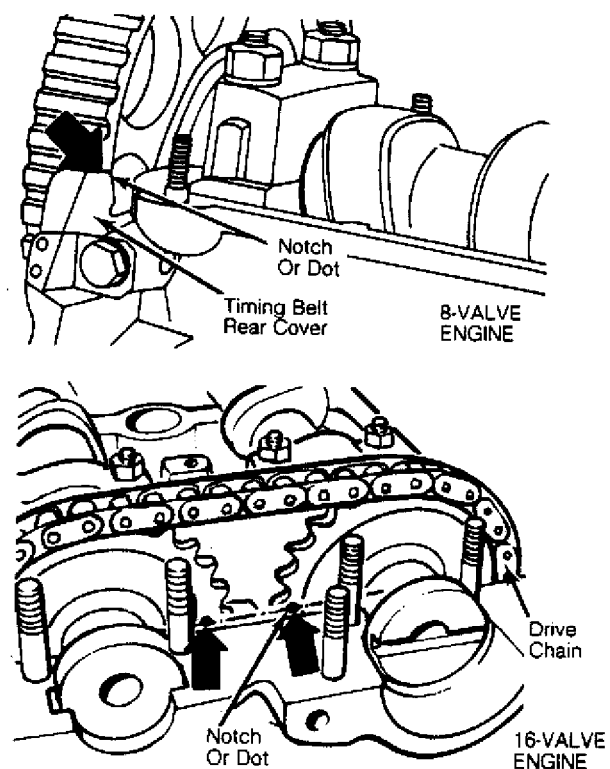

Fig. 4: Setting Camshaft Timing Marks
2) Position camshaft so mark on back of sprocket is in line with upper edge of timing belt rear cover. See Fig. 4. Both lobes for No. 1 cylinder should point upward at 45 degrees from camshaft follower so both valves are closed. Install timing belt on camshaft sprocket.
3) On Scirocco 16-valve engine, install camshafts and drive chain as an assembly. Ensure timing marks on camshaft are aligned. See Fig. 4. Tighten intake camshaft bearing caps No. 6 and No. 8 evenly in an alternate and diagonal pattern to 11 ft. lbs. (15 N.m).